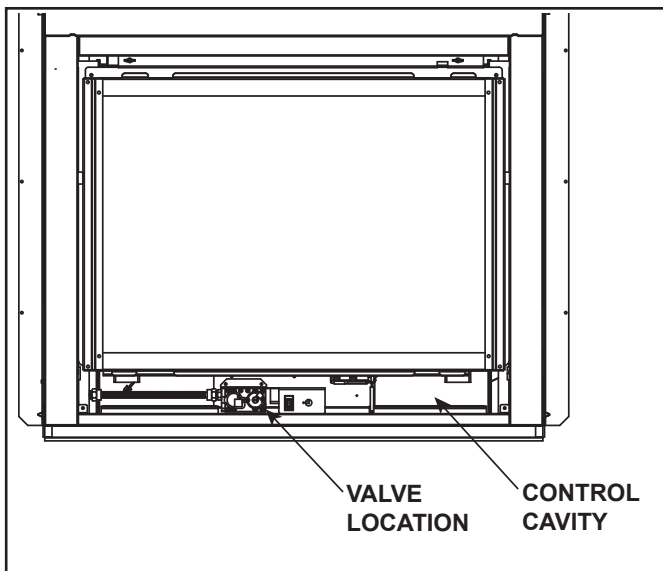

Figure 3.3 Control Cavity/Valve Location
The SL-550F and SL-750F models have a variable burn rate which is controlled by the HI/LO knob on the gas valve. Therefore the flame height is adjustable. The HI/LO knob is shown in Figure 3.3. It is located in the control cavity of the appliance. The HI/LO knob may be adjusted as desired by turning counterclockwise to the HIGH position and by turning clockwise to the LO position.
The IntelliFire intermittent pilot ignition system comes with a battery backup system that enables the system to operate in a power outage. A factory-installed battery pack is located in the control cavity of the appliance. See Figure 3.3. Batteries should not be placed in the battery tray while using electrical power to operate the fireplace. Remove batteries from battery tray when power has been restored.
1. Access the control cavity of the appliance. See Figure 3.3 for location. The decorative front may need to be removed.
2. Locate the battery tray in the control cavity and insert two D cell batteries. Battery polarity must be correct or module damage will occur. See Figure 3.3. A complete wiring diagram is included in the Electrical section of the appliance Installation Manual.